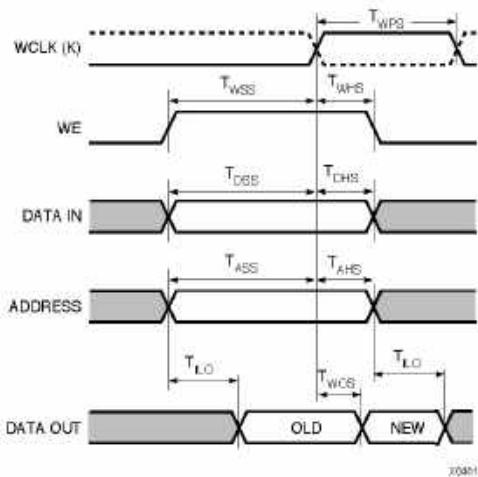

Figure 3: Edge-Triggered RAM Write Timing
Edge-triggered (synchronous) RAM simplifies timing requirements. XC4000 Series edge-triggered RAM timing operates like writing to a data register. Data and address are presented. The register is enabled for writing by a logic High on the write enable input, WE. Then a rising or falling clock edge loads the data into the register, as shown in Figure 3.
**Note:** The pulse following the active edge of WCLK (TWPS in Figure 3) must be less than one millisecond wide. For most applications, this requirement is not overly restrictive; however, it must not be forgotten. Stopping WCLK at this point in the write cycle could result in excessive current and even damage to the larger devices if many CLBs are configured as edge-triggered RAM.
Dual-port mode always has edge-triggered write timing, as shown in Figure 3.
**Note:** The pulse following the active edge of WCLK ( $T_{WPS}$  in Figure 3) must be less than one millisecond wide. For most applications, this requirement is not overly restrictive; however, it must not be forgotten. Stopping WCLK at this point in the write cycle could result in excessive current and even damage to the larger devices if many CLBs are configured as edge-triggered RAM.